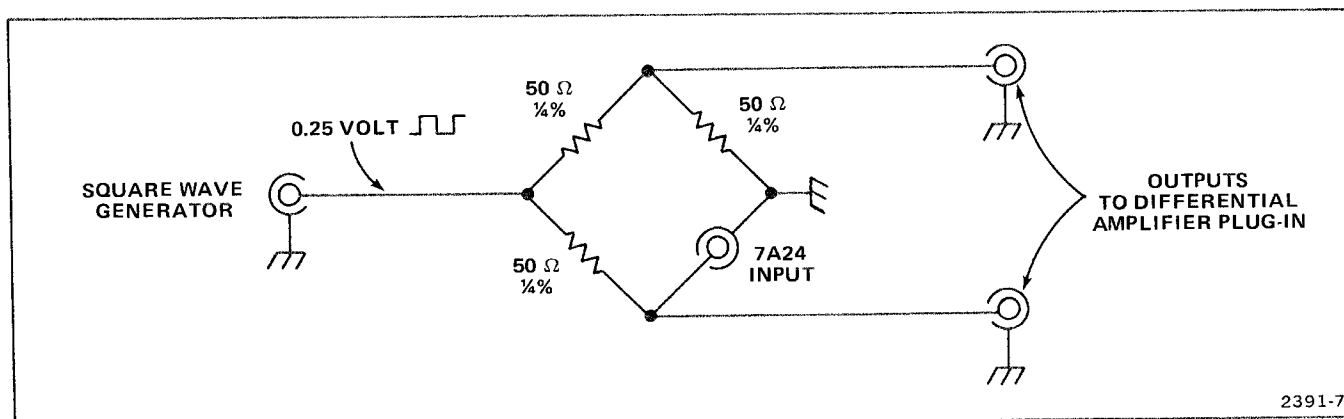

Figure 5-1. Test circuit for Input Resistance Check/Adjust step.
1Any method of accurately (plus or minus 0.5%) measuring resistance may be substituted for this piece of equipment and the test circuit shown in Figure 5-1.
| 4. Test Circuit (Fig. 5-1)  | 9. Cable (50-ohm)              |
- Connect the test circuit, as shown in Figure 5-1, to the CH 1 input connector.